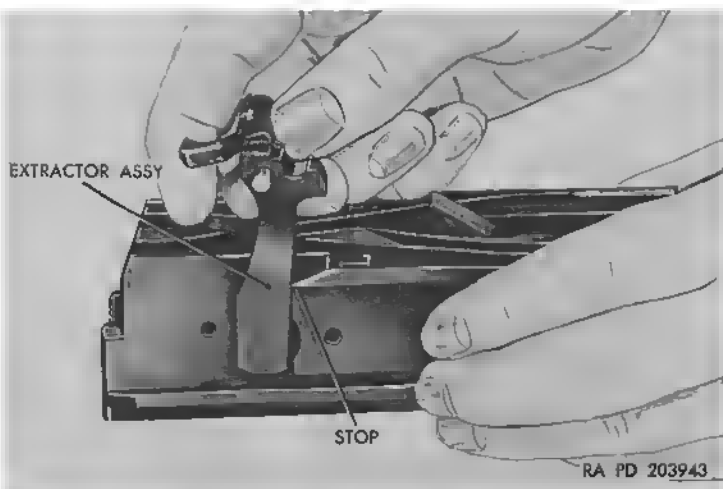

Figure 8. Disengaging extractor assembly.
- (1) Remove the bolt group from gun (par. 63).
- (2) Disengage extractor assembly (fig. 8) from bolt by rotating it upward until it rests against the projecting stop. Slide the extractor assembly out of the bolt.